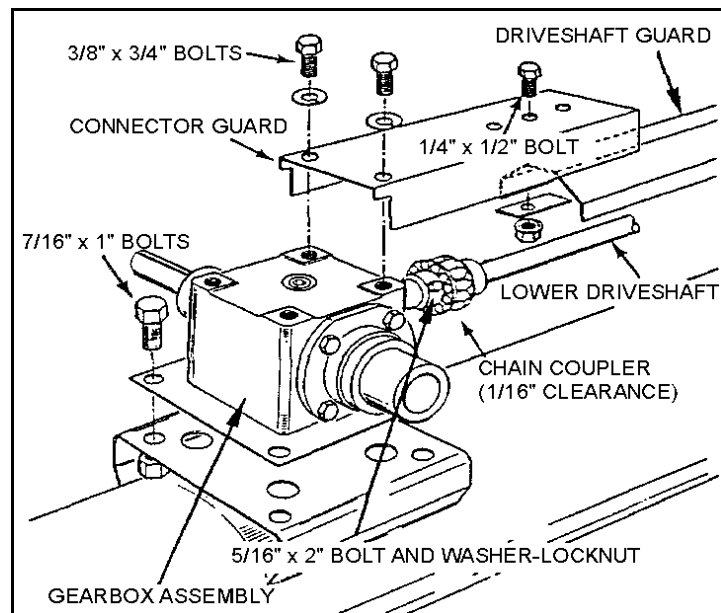

Figure 3.8
2. Place gearbox assembly onto the mounting bracket welded to tube, then reinstall chain, leaving 1/16" clearance between chain coupler sprockets. Secure gearbox assembly with four 7/16" x 1-1/4" bolts and locknuts as shown in Figure 3.8.
2. Attach the connector guard to gearbox with two 3/8" x 3/4" bolts and lockwashers (Figure 3.8). Attach the first driveshaft shield to the connector shield with one 1/4" x 1/2" bolt, a washer-locknut, and a punched flat iron plate.